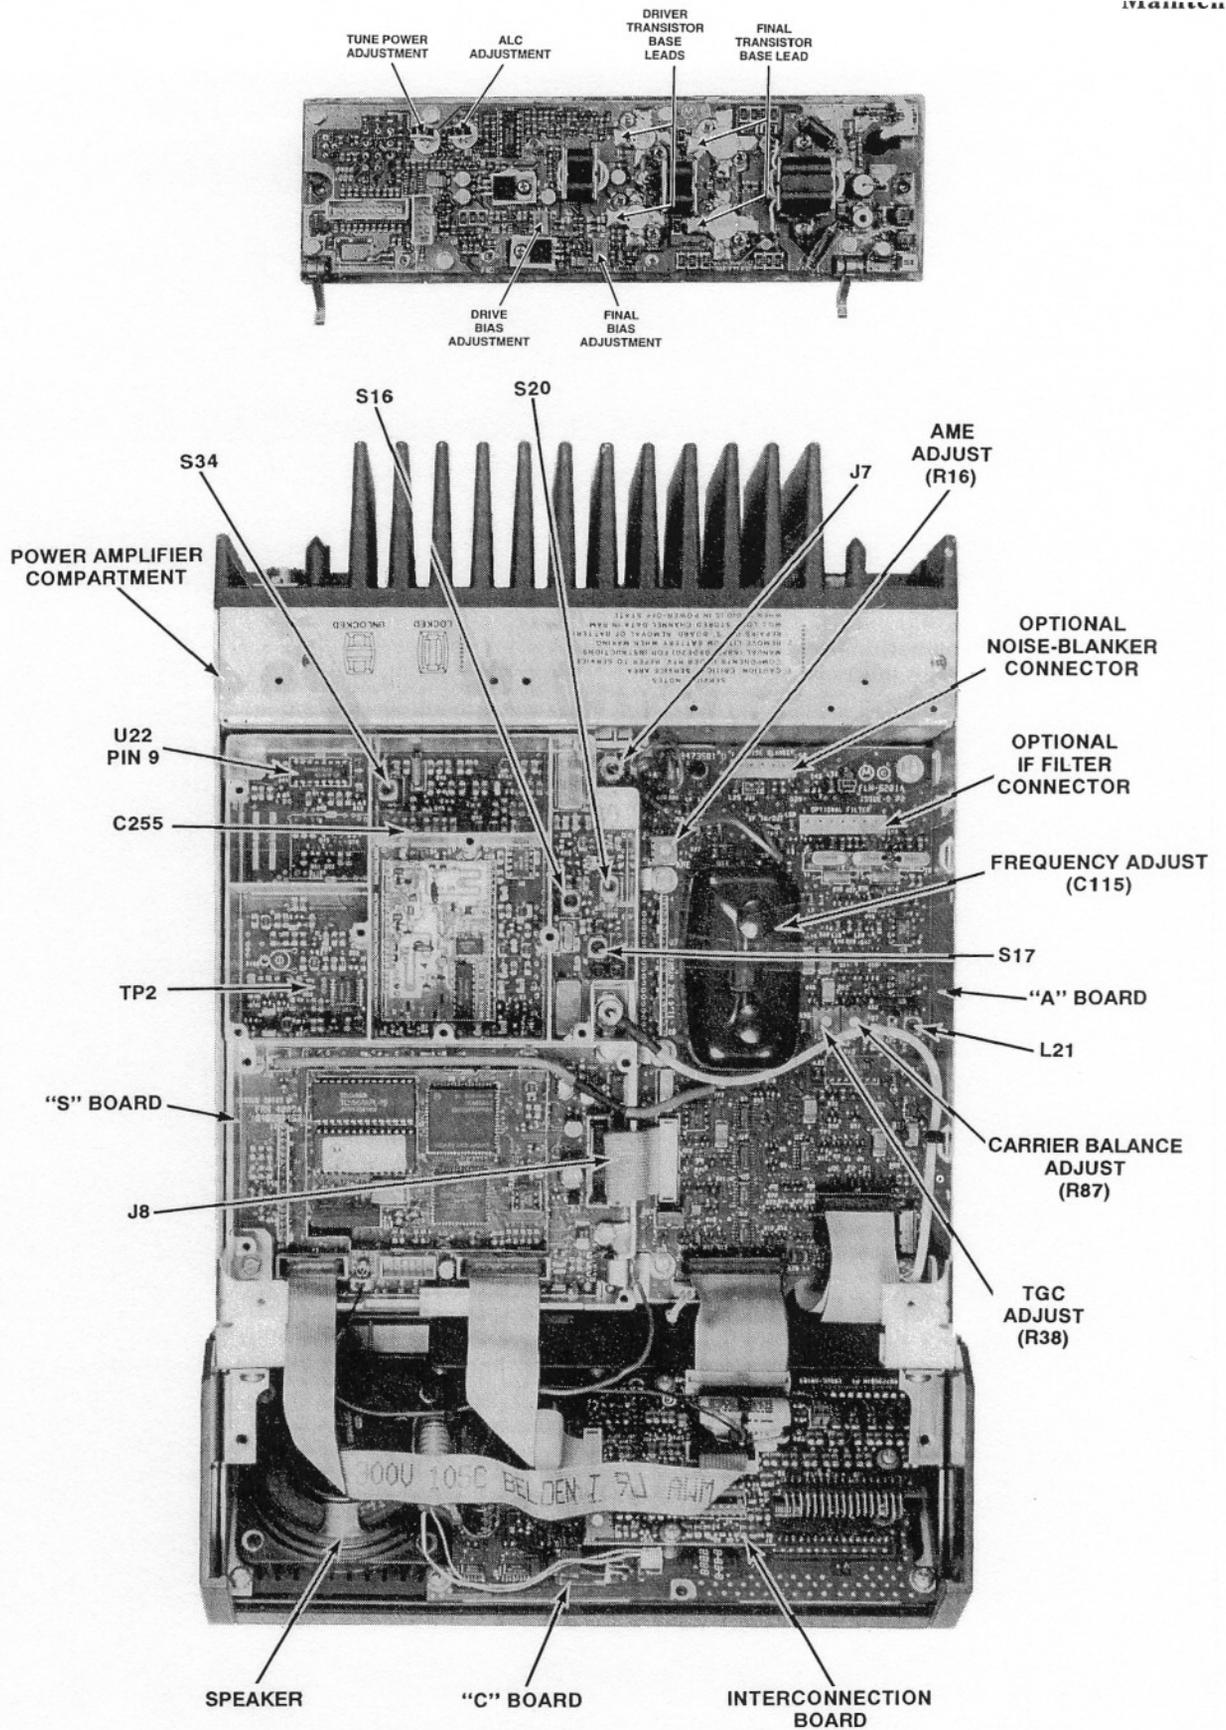

Figure 3. Location of Measurement and Adjustment Points
(See Figure 3)
Step 2. Remove the plastic cap covering the tuning hole in the oven insulating cover and adjust the piston trimmer capacitor C115 (see Figure 3) to obtain a reading of 9.105 MHz \pm 2 Hz on the frequency counter.
Step 3. Remove the plastic cap covering the tuning hole in the oven insulating cover and adjust the piston trimmer capacitor C115 (see Figure 3) to obtain a reading of 1000Hz \pm 1 Hz on the frequency counter.
Step 2. Without any change in the radio's mode of operation, adjust coil S34 (see Figure 3) to obtain 4 \pm 0.1 V on the positive pole of C255.
Step 3. Tune coils S16-S17 (see Figure 3) to maximum output at J8. Then, vary the RF signal generator \pm 10 kHz around the center frequency and return slightly S16-S17 to obtain maximum ripple of 1.5 dB within the \pm 10 kHz range. The output level in the center should be -18 to +3 dBm.
Step 4. Adjust the TGC potentiometer, R38 on the A board (see Figure 3) for output power of 145 W.
Step 4. Adjust the 11.4 MHz IF amplifier coil L21 on the A board, and the 75 MHz receive path coil S20 on the S board for maximum recovered audio at the speaker (see Figure 3).